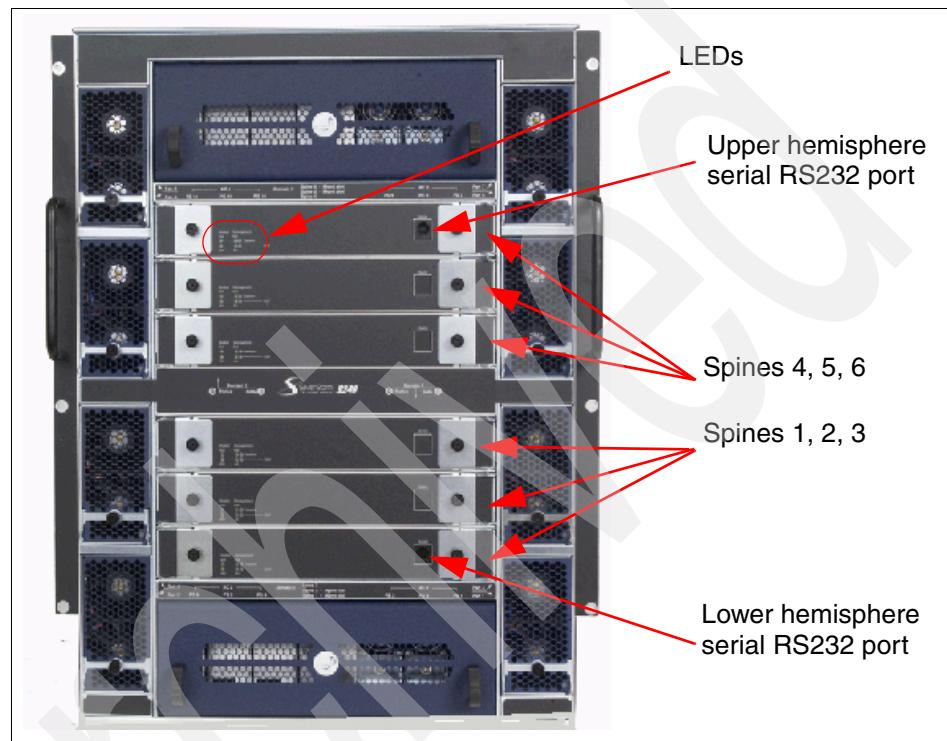

Figure 6-2 Front picture of IBM 7874-240 fully configured
Figure 6-2 shows a front picture of the IBM 7874-240 switch to help you identify the spines and the serial ports.
1. Identify the master spine on one of the hemispheres. This is the spine with the green *Act* LED light lit (Figure 6-2 on page 180).